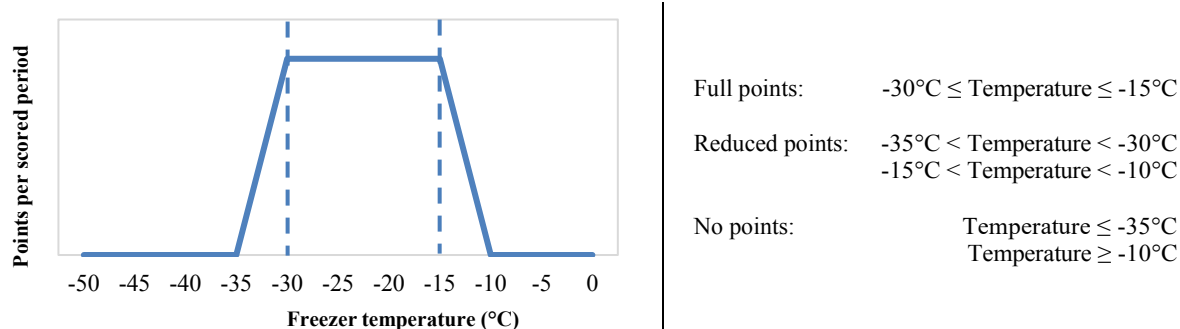

Figure 7 Scoring function for the Freezer Subcontest
- Reduced points are earned if the time-averaged interior freezer temperature is between -35°C and -30°C or between -15°C and -10°C. Reduced points are scaled linearly, as shown in Figure 7.